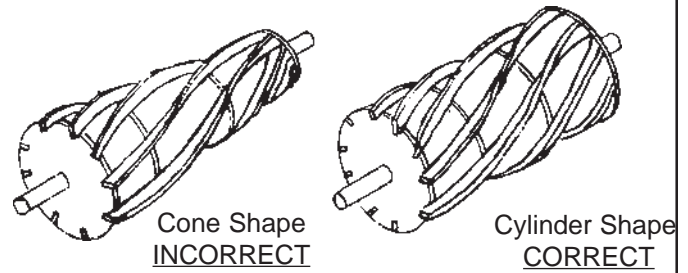
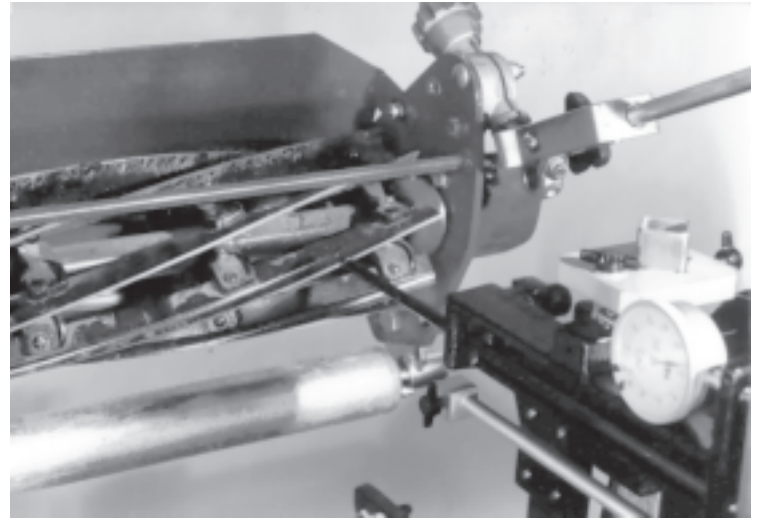
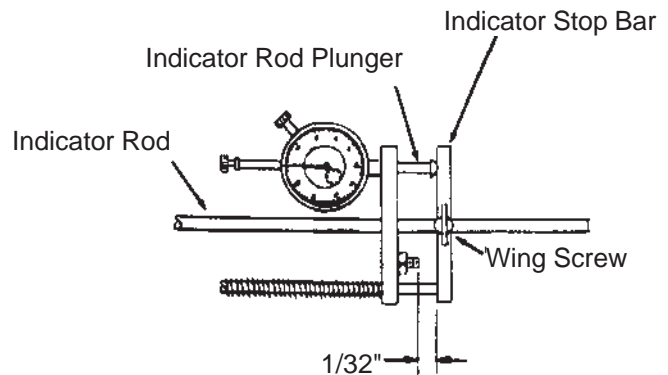

FIG. 48
FIG. 49
FIG. 50
THIS IS A CRITICAL SET UP AND CARE SHOULD BE TAKEN WHEN MAKING THESE ADJUSTMENTS. IF REEL IS OUT OF POSITION IN THE HORIZONTAL PLANE, IT WILL BE GROUND CONE SHAPED. SEE FIG. 48.
- A. Before storing the set up gauge, it is very effective to use it to check the ungrounded reel to determine the amount the reel is conical in shape and which end has the larger diameter. See FIG. 48. Start with the set up gauge at the right end of the reel. Loosen the wing nut on the indicator stop bar, holding the indicator rod firmly against one blade. See FIG. 49. Pull the indicator stop bar back until it clears the plunger then advance it forward until it contacts the plunger and advances it 1/2 inch further. Lock in place. This sets the plunger at its midpoint and allows adequate movement in both directions. Set outer dial at zero and note position of pointer on small dial.
- A. After grinding a reel, check the roundness on each end of the reel and center before removing ground reel. See FIG. 49. Loosen the wing nut on the indicator rod firmly against one blade. Pull the indicator stop bar back until there is a 1/32" gap between it and the set screw. This is to permit rotation of the reel blades to ride on the domed anvil only. See FIG. 50. At each location (left, right and center) turn the reel by hand and observe the indicator variations. All readings should be within .002".
Index reel blade until you read the high point on the indicator. Now loosen the wing screw and set the indicator stop block to a 1/32" gap as shown in FIG. 49 & 50.